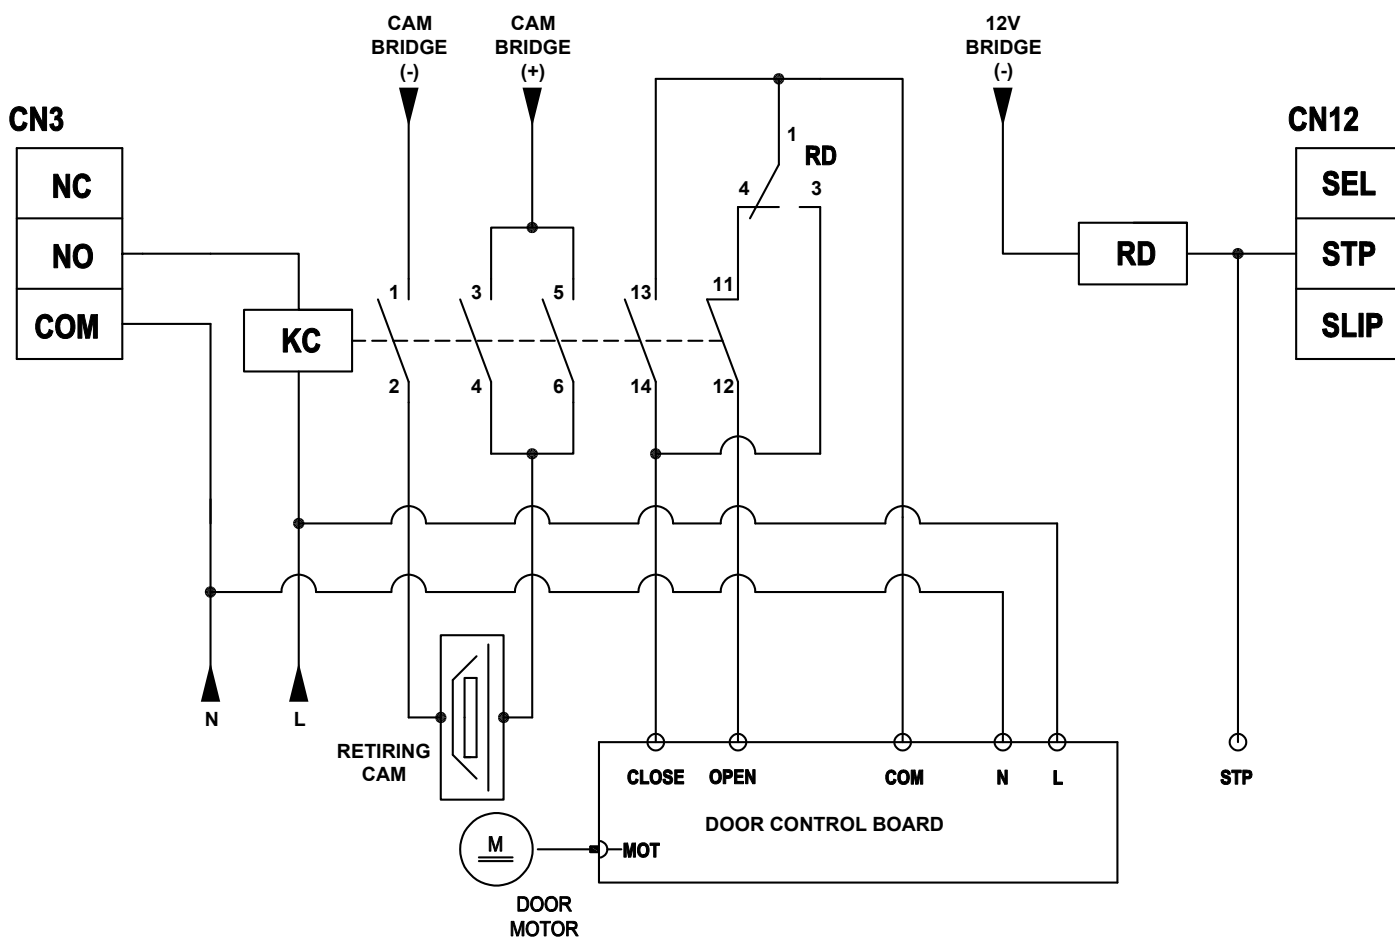

Figure 19.0 - Single-Phase Semi-Automatic Door Connections
The terminals of operating the single phase Semi-Automatic Door are wired and connected as illustrated in Figure 19.0.
- In this case, the door is considered as a Manual Door, therefore the CAM terminal (CN3) is connected as illustrated in Figure 19.0.